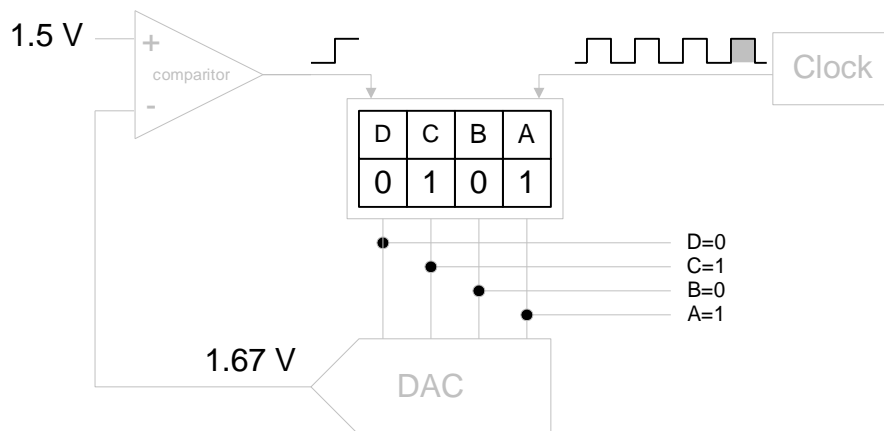

Figure 5.
Figure 5. illustrates the fourth, and last, step in the conversion cycle. With the fourth clock pulse, the A (1) bit is set to 1 and the DAC output is now 1.67 V (the A and C bits are set to 1).